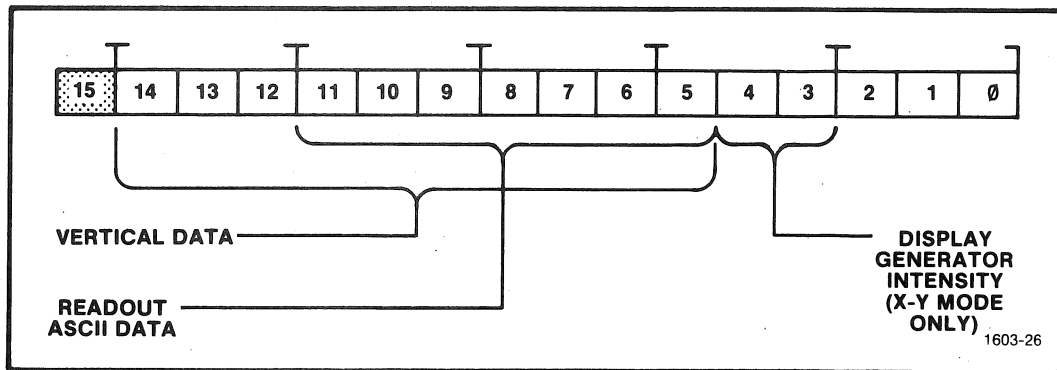

Fig. 2-9. DPO Data Word Format.
- 1) DPO DATA REGISTER (DDR). There are basically two types of information sent to and received from the DDR. They are Status Words and Data. Status Words are instructions to the cards in the P7001 (processor part of the DPO) which tell them what actions to take, i.e., STORE, HOLD, etc. Data is the converted vertical data from the A-D Converter, ASCII data or vertical data to or from the P7001 Memory, or vertical data to the Display Generator. Formats are shown in Fig. 2-9 and 2-10.